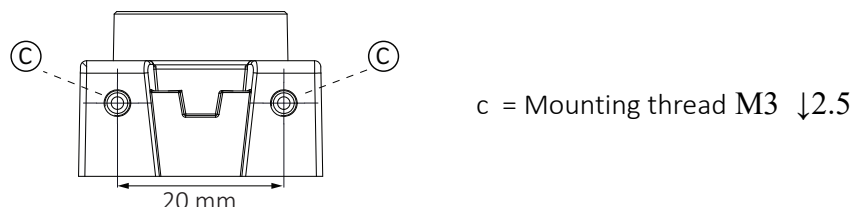

Figure 54: Top and bottom with mounting threads
1. Mount the camera to the base using suitable M3 screws at 0.35 Nm maximum torque for a thread engagement of 2.5 mm between screws and mounting threads, see Figure 54. For technical drawings, see Dimensions and mass on page 112.